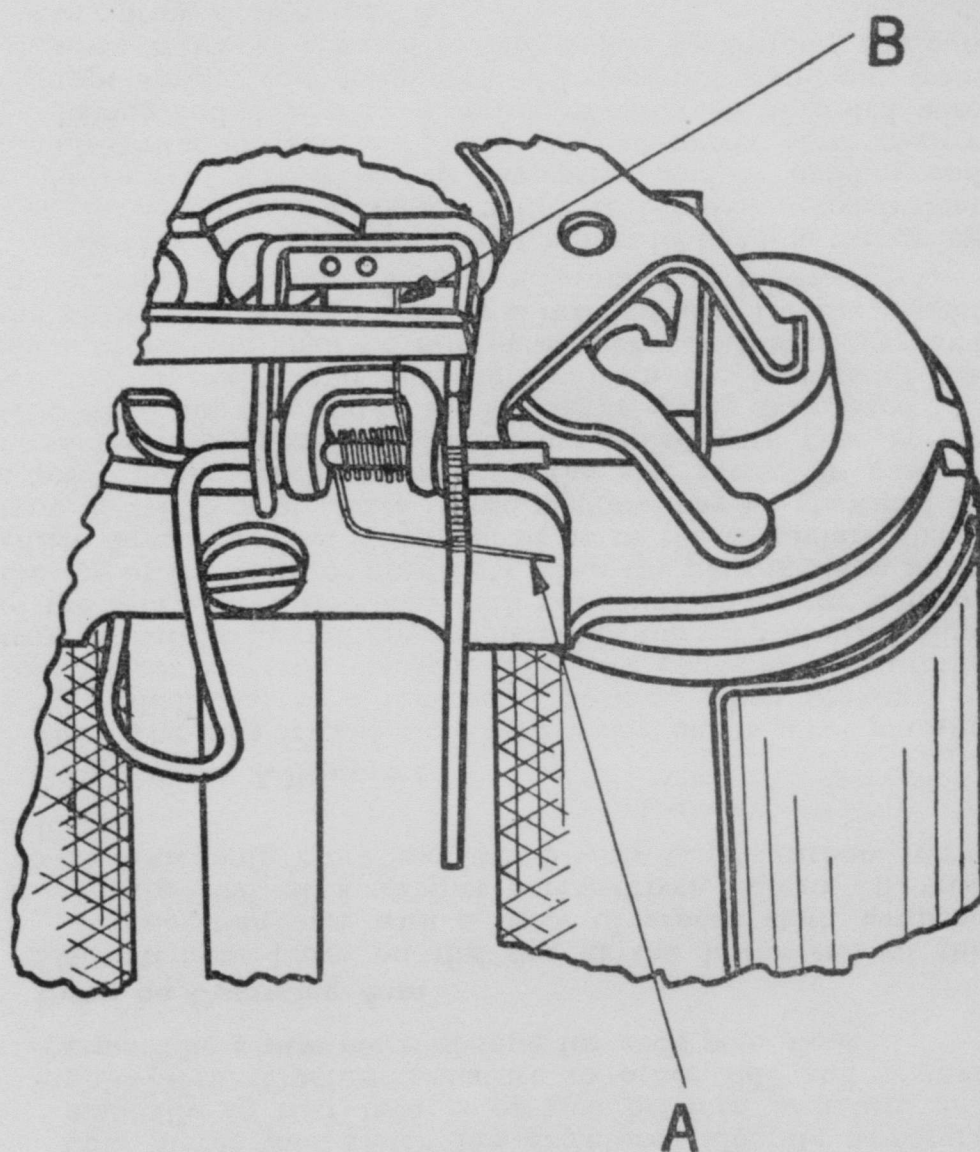
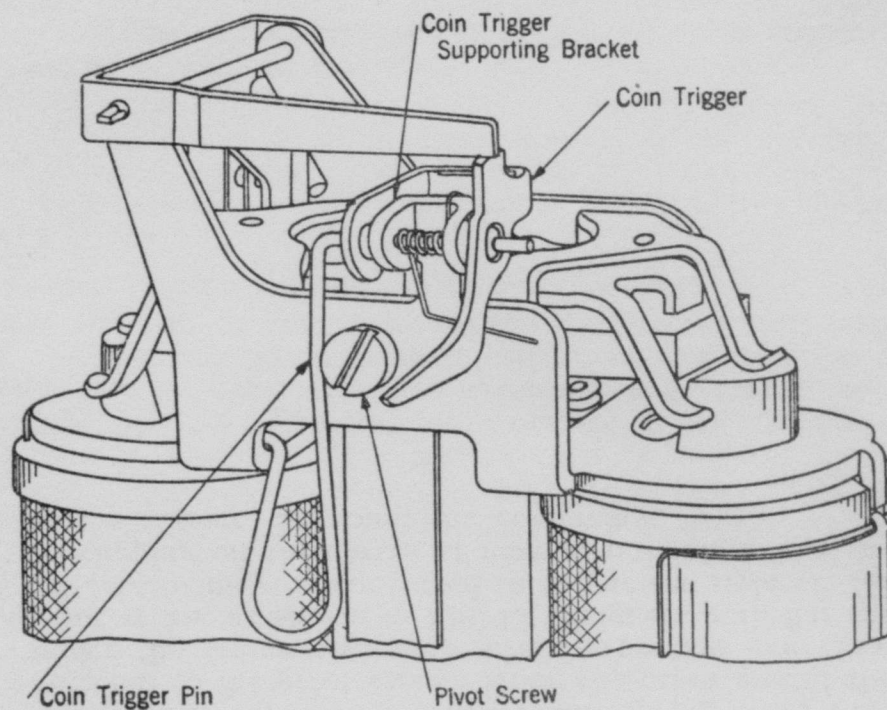

Fig. 12.
Fig. 13.
5.07 The coin trigger shall turn freely on its pivot pin and shall rest in a horizontal position when pressure of coin trigger lever is removed. The coin engaging end of the trigger shall be located approximately in the vertical center line of the coin hopper slots and shall not touch either the sides or the top of the front or rear slots when the play is taken up in either direction. Coin trigger shall be of the chromium plated type, P-231256 or P-231255 (these triggers may be identified by a prick punch mark stamped on the side face). In case of newer style trigger P-231255 having coiled wire type spring (P-248496), the free end of the leg of the spring designated "A" on Fig. 12 shall stand out slightly from the surface of the pivot frame and shall be interposed between the trigger and the pivot frame so as to act as a resilient stop for the trigger in the tripped position. To adjust, proceed as follows:
(c) Place new chromium plated trigger P-231255 in position. Place end of spring P-248496 designated "A" on Fig. 12 against the surface of the pivot frame and end designated "B" over the coin trigger supporting bracket and under the back of the trigger, as shown on the figure. Then insert the straight end of the pin P-248039 through the trigger, supporting bracket and spring from the side adjacent to the pivot screw. Hook the other end of the pin under the frame and snap straight portion over head of pivot screw, as shown in Fig. 13. Triggers with flat springs (P-231256) may be converted to the newer style (P-231255) by clipping off the spring as near as possible to the surface of the trigger. Remount the coin relay.